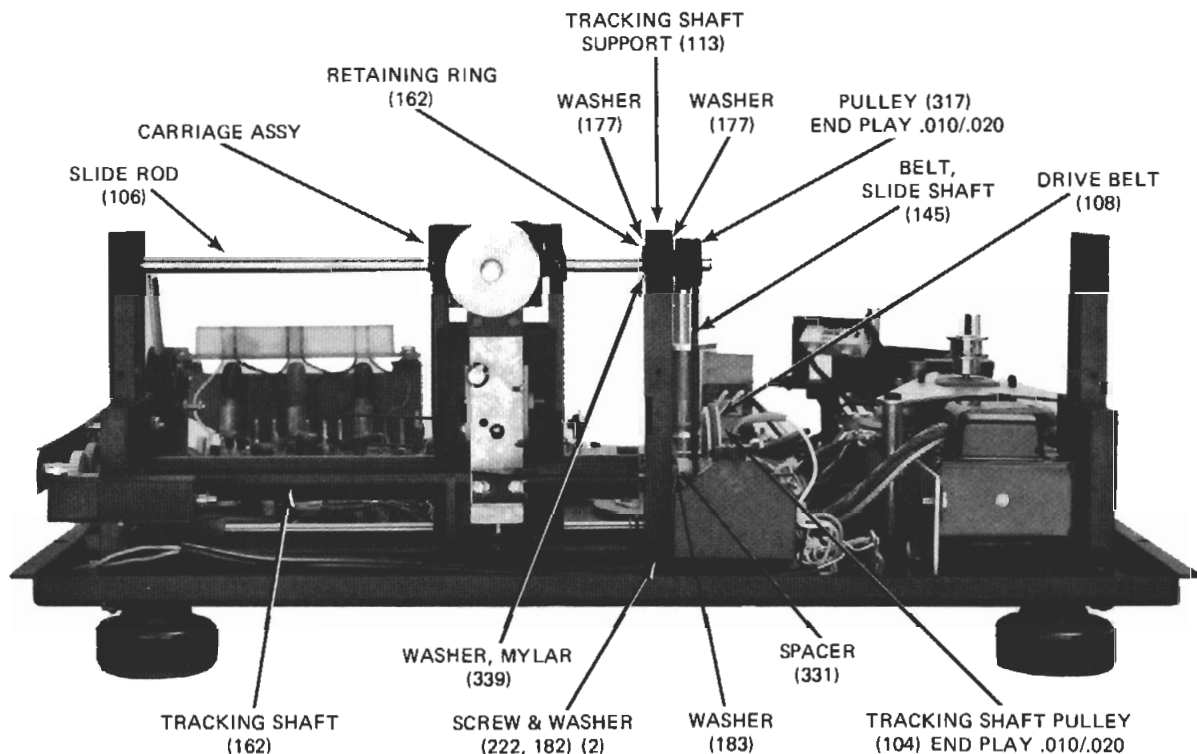

Figure 11. Carriage Assembly Removal
Locate Terminal Strip TB1 on Figure 3. Unsolder five tone arm signal leads (red, green, yellow, white and black). Referring to Figure 11, loosen set screw and remove pulley (317), belt (145), retaining ring (162), washers (177), washer (339) and then remove slide rod (106). Loosen two set screws and remove tracking shaft pulley (104), drive belt (108), spacer (331), washer (183). Remove two screws and washers (222, 182) and remove tracking shaft support (113). Carefully slide carriage assembly off tracking shaft.